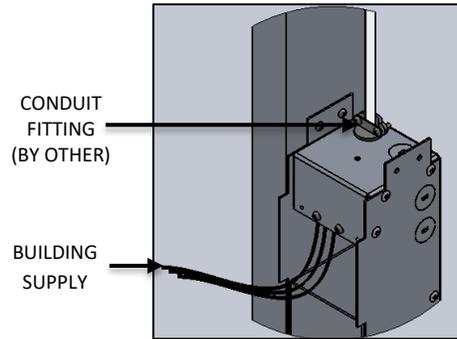

FIG. 10- DETAIL SHOWING BUILDING SUPPLY AND CONDUIT FITTING
- Attach appropriate 1/2" CONDUIT FITTING to knockouts and run building supply connections into the box. make sure to pull the wires out through the square opening as shown below in FIG. 10 & 11.